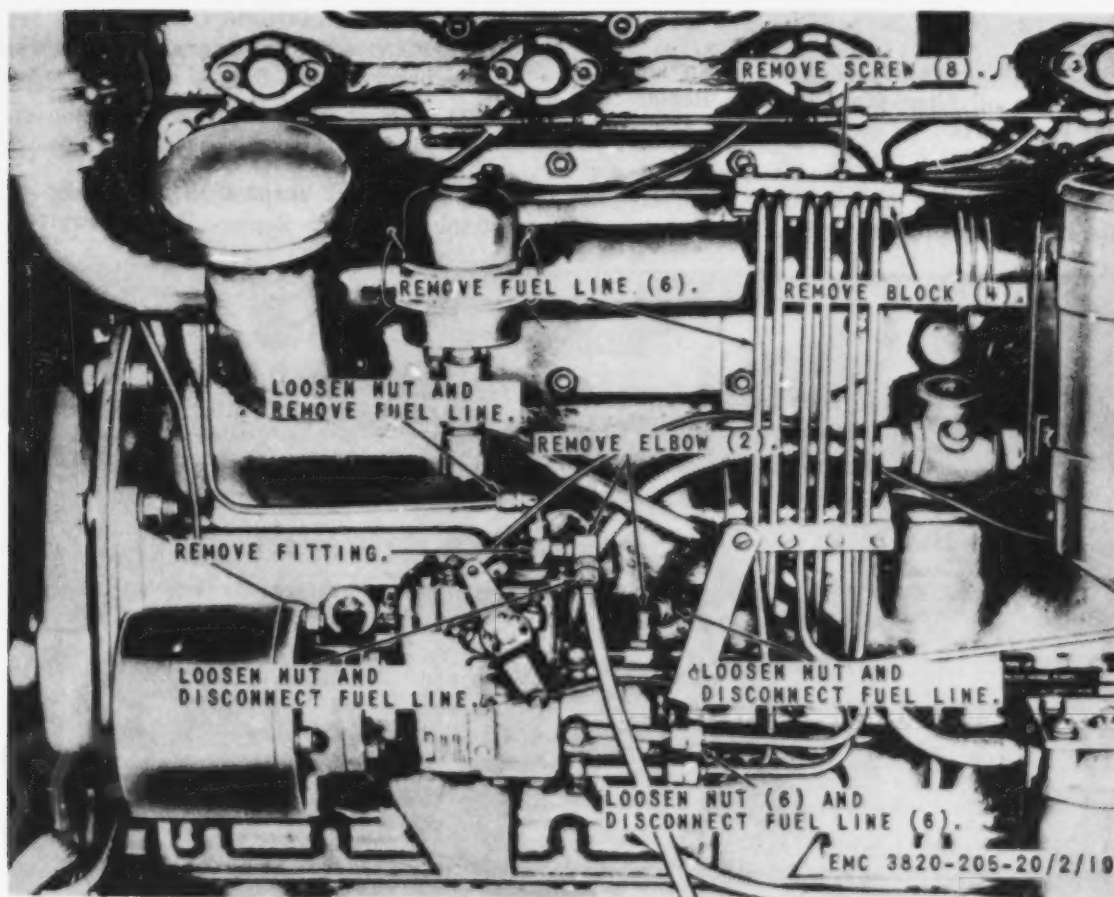

Figure 22. Fuel injector pump fuel lines, removal and installation.
(4) Disconnect the fuel lines from the fuel injectors (par. 61).
(5) Disconnect the fuel lines from the fuel injector pump as instructed on figure 22.
(1) Connect the fuel lines to the fuel injector pump in reverse of the instructions on figure 22.
(2) Connect the fuel lines to the fuel injectors (par. 61).
(3) Connect the fuel lines to the fuel filters (par. 63).
(4) Connect the fuel lines to the fuel primer (par. 55).
(5) Connect the fuel lines to the fuel tank (par. 64).